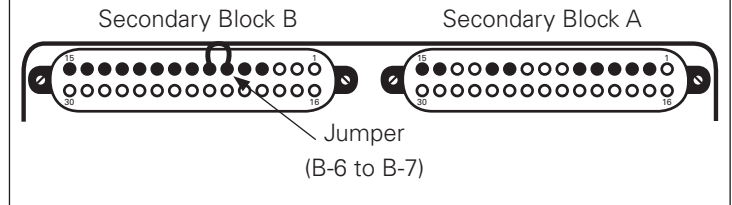

Figure 9. Breaker Secondary Contact Jumper for Ground Fault Test (Magnum)
- Plug in Ground (Earth) Fault test connector supplied with kit to circuit breaker’s “B” secondary contact block – this provides temporary jumper from terminals B-6 to B-7 of circuit breaker (**Figure 9**)
- Plug in Ground (Earth) Fault Test Connector supplied with kit to circuit breaker's "B" secondary contact block – this provides temporary jumper from terminals B-6 to B-7 of circuit breaker (**Figure 9**).